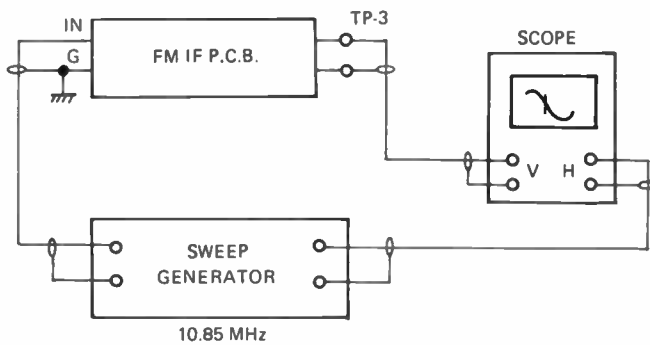

FIGURE 11
step 1: Connect instruments as shown in Figure 11.